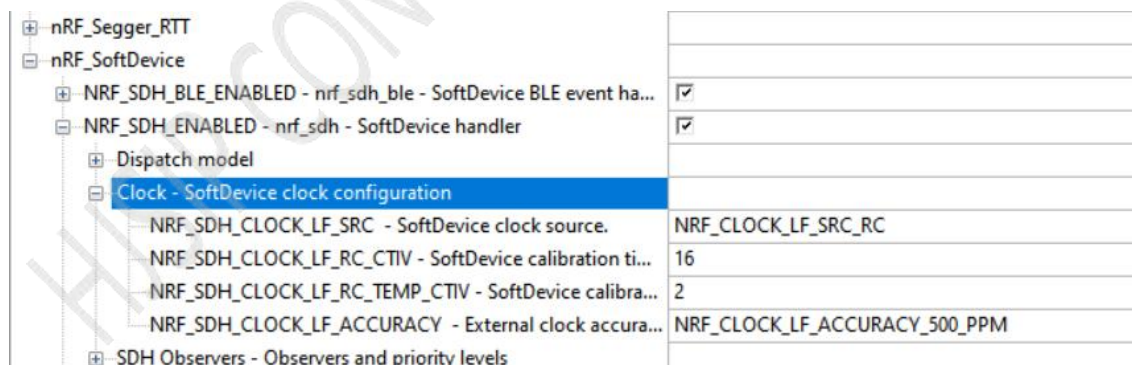

Figure 5.3: NRF\_SDH\_ENABLED
- Unfold“nRF\_SoftDevice”->“NRF\_SDH\_ENABLED”->“Clock - SoftDevice clock configuration”Please modify as shown in Figure 5.3: